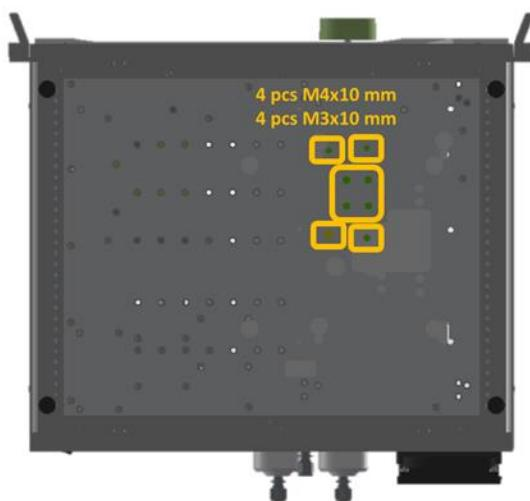

Figure 48. Screws to unmount PA Module from Measurement Unit. Screws are 4 pcs of M4x10 mm and 4 pcs of M3x10 mm.
3. Unmount the PA Module from the base plate using screws 4 pcs of M3x10 mm and 4 pcs of M4x10 mm from the bottom of the GASERA ONE. See Figure 48.